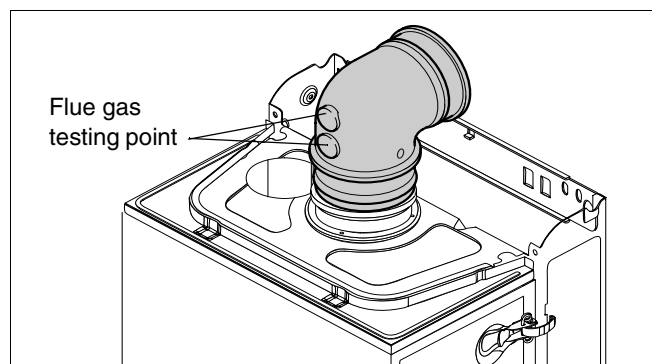

Fig. 12 Elbow with flue gas testing point
- Push the assembly through the wall and slide the turret onto the flue connector. Refer to figure 12.